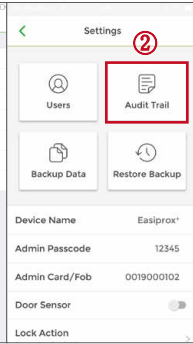

Figure 6
② **Audit Trail** : (See Figure 6 and 7 next page)